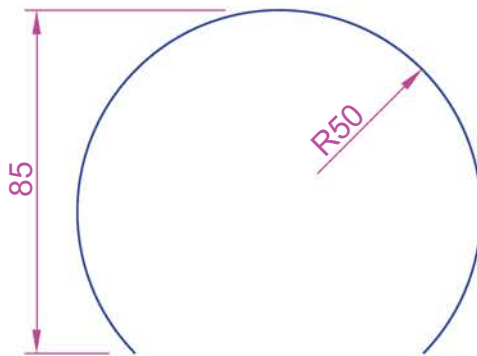

Fig. 11.33 Second example – 3D Surface – the part circle to be extruded
1. In the **Top** view on a layer colour **Blue**, construct the circle Fig. 11.33 using the **Break** tool and break the circle as shown.